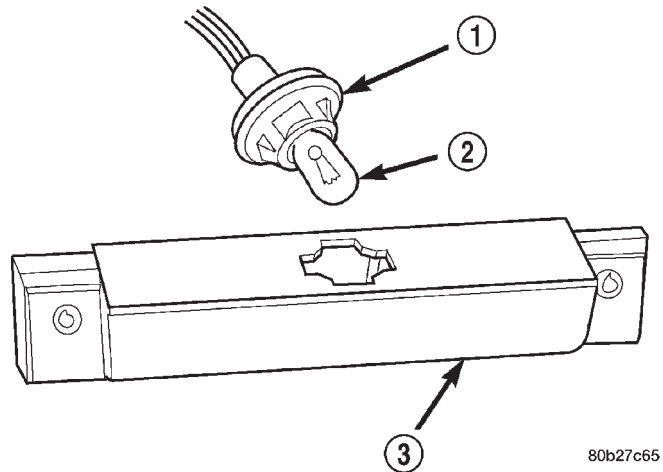

Fig. 6 License Plate Lamp Bulb
- (1) Remove license plate lamp from rear bumper.
- (2) Remove bulb socket from lamp (Fig. 6).
- (3) Pull bulb from socket.